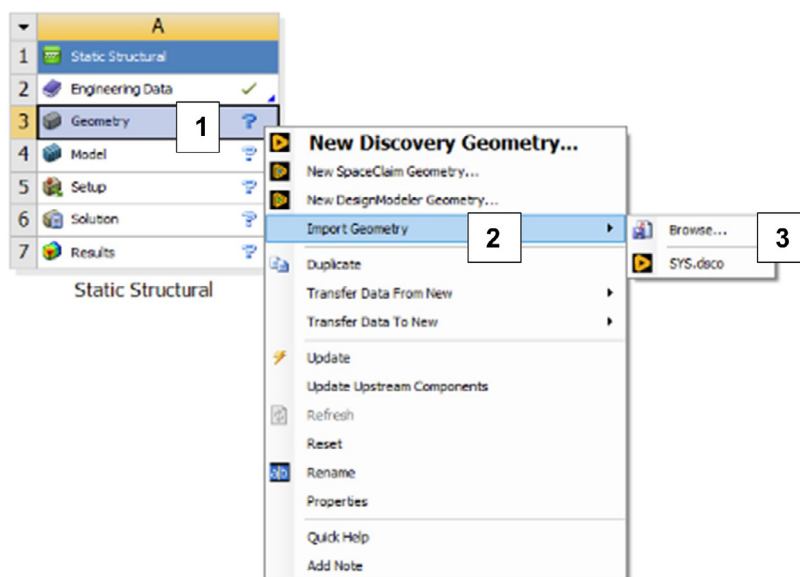

Figure 2: Steps to import the geometry using the Ansys Workbench tool
2. Navigate to the geometry (Fig. 2 (1)), right click and select “Import Geometry” (2) – “Browse” (3).